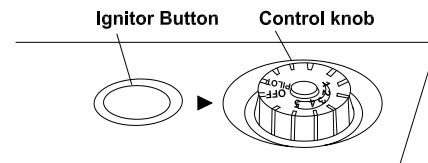

Figure 19 - Control Knob in the OFF Position
4. Wait five (5) minutes to clear out any gas. Then smell for gas, including near the floor. If you smell gas, STOP! Do not try to light any appliance. Do not touch electrical switch or use any phone in the building. Immediately contact gas supplier from a neighbor's phone. Follow gas supplier's instructions. If you can't reach the gas supplier, call the fire dept. If you don't smell gas, go to the next step.
5. Turn control knob counterclockwise ↺ to the PILOT position. Press in control knob for five (5) seconds (see Figure 19).